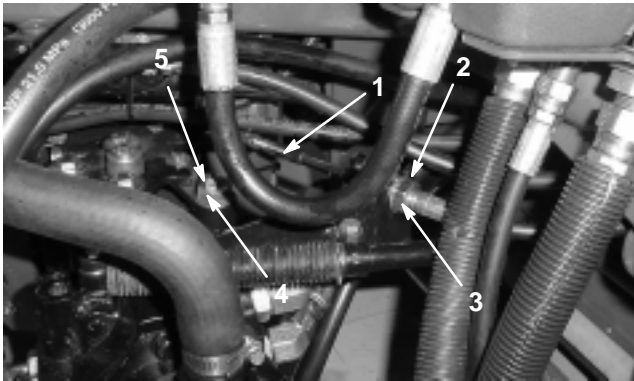

Figure 52
- A. Loosen both jam nuts securing the traction control cable to the bulkhead on the hydrostat (Fig. 52). Make sure the jam nuts are loosened equally and sufficiently to allow adjustment.
Note: Loosen the nut securing the eccentric to the top of the hydrostat (Fig. 52).
- C. Rotate the eccentric until creep does not occur in either direction. When the wheel stops rotating, tighten the nut locking the eccentric and the adjustment (Fig. 52). Verify the adjustment with the throttle in the Slow and Fast position.
- D. From each side of the bulkhead, tighten the locknuts **evenly**, securing the traction cable to the bulkhead (Fig. 52). Do not twist the cable.